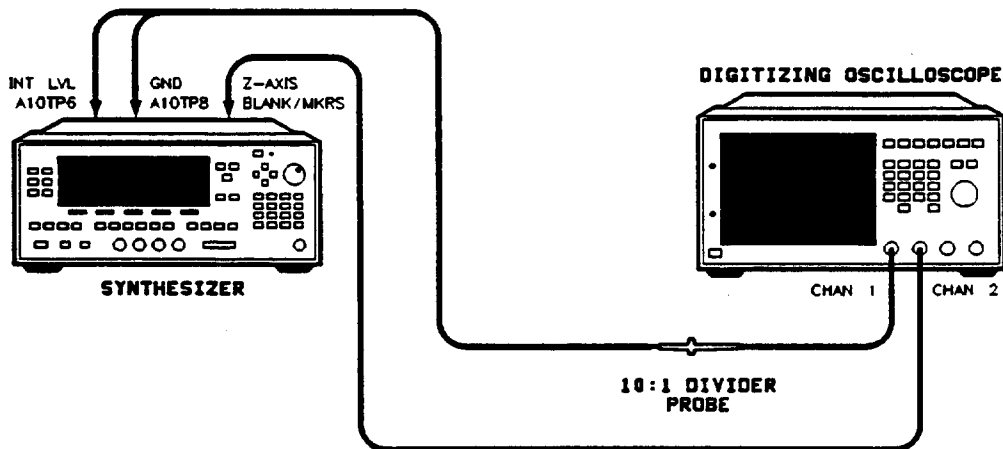

Figure 3-22. Modulator Offset and Gain Adjustment Setup
1. Connect the equipment as shown in Figure 3-22. Preset the instruments and let them warm up for at least one hour.
Select **Modify Cal**. Use the numeric keypad to enter the corresponding default value in Figure 3-22. Terminate your entry with the **ENTER** key.
4. Using the up/down arrow keys, select each of rest of the calibration constants in Figure 3-22 and set their default values by entering the value on the numeric keypad. Terminate your entry with the **ENTER** key.
7. Connect the oscilloscope as shown in Figure 3-22.